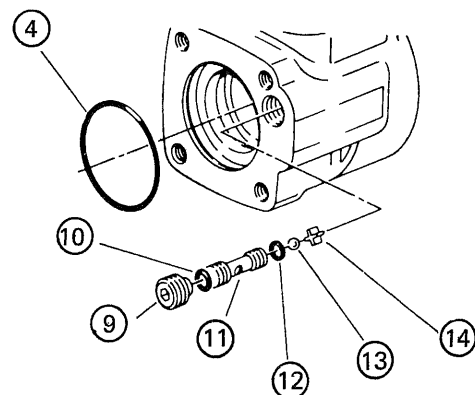

Fig. 136
- (20) Remove O-ring (4) from housing (Fig. 136)
- (21) Remove set screw (9) from housing (Fig. 136) The set screw has been locked by Seal Lock to prevent going loose.
- (22) Screw thread (No. 10-24) into check seat (11) and pull off from housing (Fig. 136)
- (23) Remove two O-rings (10), (12) from check seat (11).
- (24) Separate ball (13) and check ball retainer (14) from housing by tapping housing.